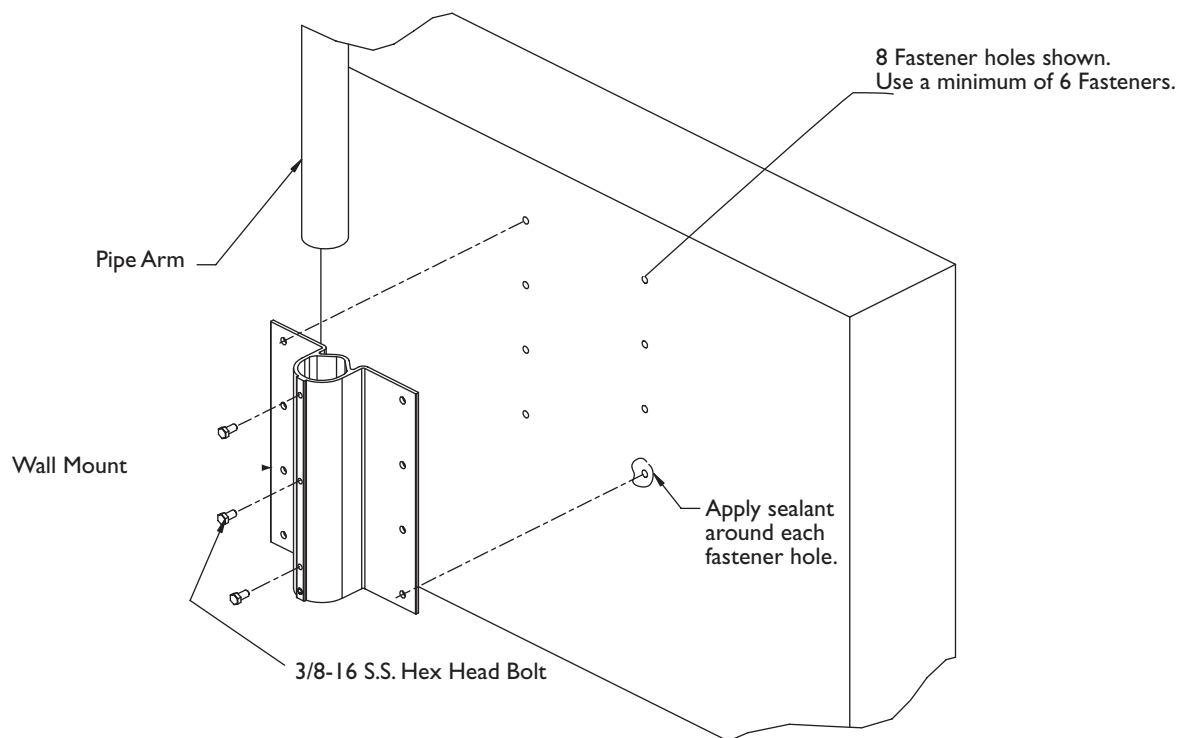

Figure 2: Installation of Wall Mount to a Wall
2. Using the wall mounting bracket as a template, position the bracket in the desired location and mark the hole locations on the wall (see Figure 2). Use a minimum of six (6) fasteners (three fasteners for each side of the mounting bracket).
4. Apply a good quality sealant around each hole, anchor or stud at the mounting surface (see Figure 2).
10. Rotate the pipe arm to swing the AutoDome out from the roof and into the desired position. Tighten the three (3) 3/8 in. stainless steel hex bolts (see Figure 2) to secure the pipe arm into position.